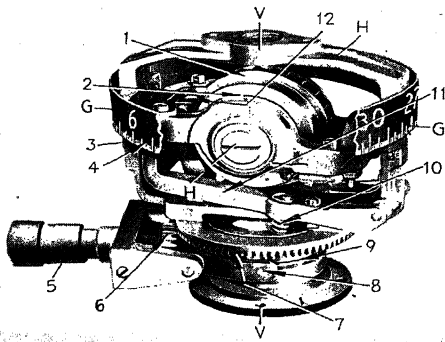

FIG. 72.—Principal parts of directional gyro.
The directional gyro does not swing. By watching the lubber line in relation to the card, the pilot can steer accurately on any given heading, even in rough air. The principal parts of the directional gyro are seen in Fig. 72. It is a horizontal, axis-free gyro, with an azimuth card and a setting device. The gyro, or rotor (1) spins on the horizontal axis *H* at about 10,000 r.p.m. It is supported in a gimbal ring (2) which is free to turn about the vertical axis *G* on bearings in the vertical ring (3). This vertical ring is free to turn about the vertical axis *V*. The graduated card (4), attached to the vertical ring, is seen by the pilot through an opening in the front of the case. A spinning gyro has the fundamental property of rigidity. So the rotor, gimbal ring, and card attached to the vertical ring remain fixed in azimuth and the plane moves around them. The card is read in relation to the lubber line, the same as a compass.